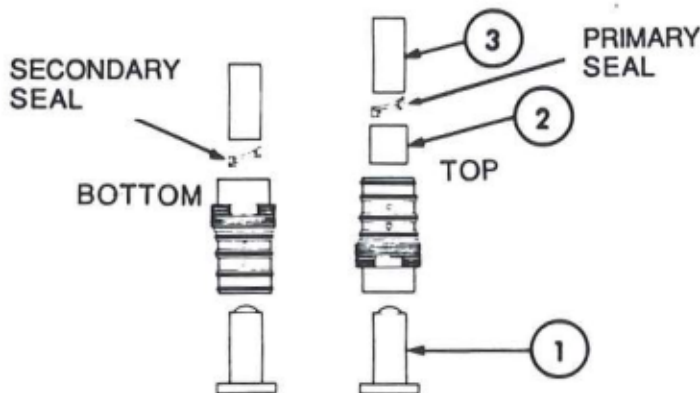

Figure 6-2. Installing Seals in Bushing
- 1). The secondary seal is installed first at the bottom end of the bushing (see Figure 6-2). Place the plug into the bushing from the top end. Hold the plug firmly and push it into the bushing until the end of the plug meets the seal groove.